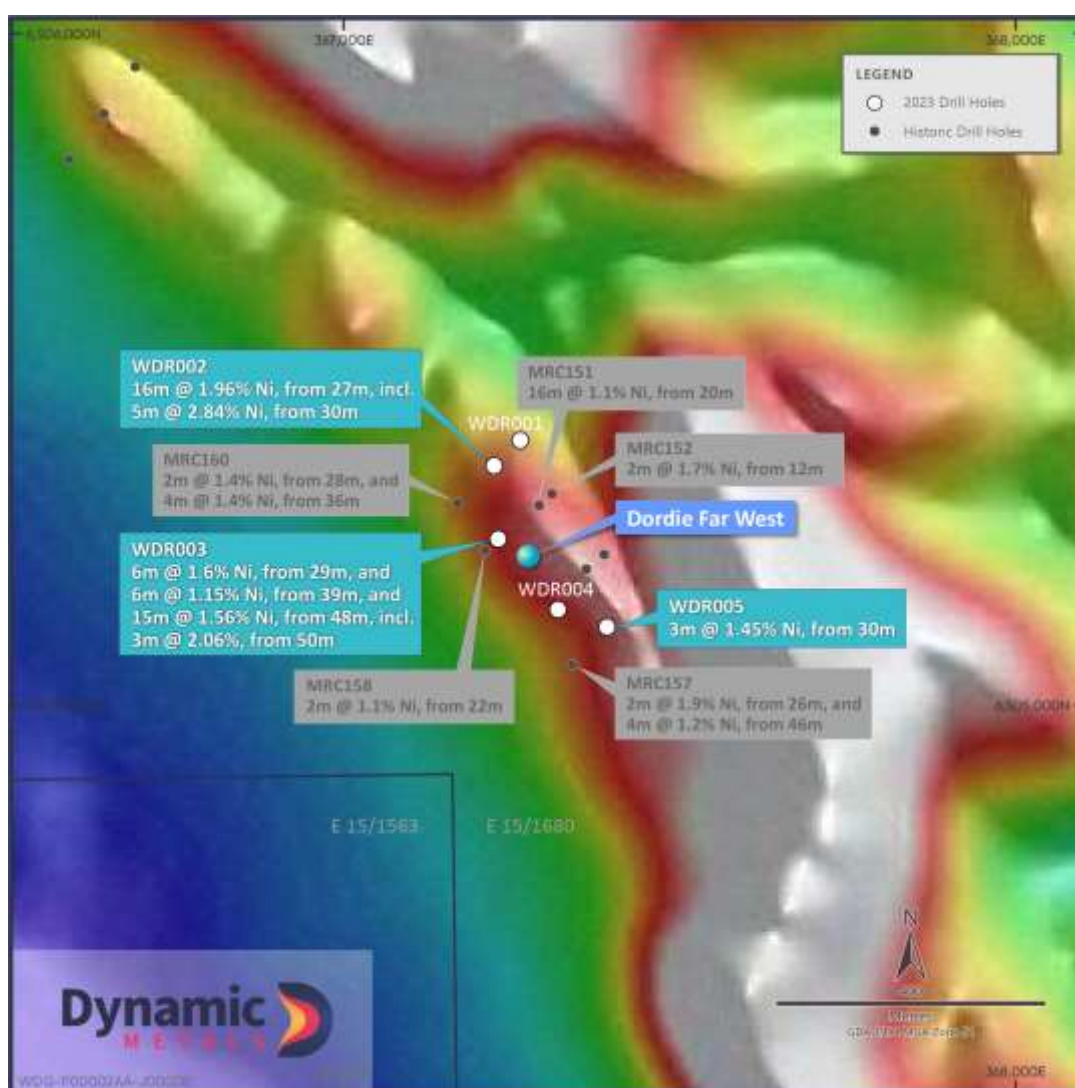

Figure 1: Drill hole positions and significant results at Dordie Far West (being updated)
DFW is located on the northwest margin of the Widgiemooltha dome on E15/1680, where anomalous nickel results were detected in RC drilling completed by Mincor Resources Limited (ASX:MCR) in the late 2000's (Figure 1)⁴. After review of the historic data, a drill program was designed to test for Kambalda komatiite type massive sulphide mineralisation interpreted to occur where the base of the komatiite stratigraphy is in contact with the underlying basalt, known as the 'basal contact'.
Five Reverse Circulation (RC) holes were drilled for a total of 736m at the prospect in February 2023, with drilling undertaken on four sections over a strike length of approximately 300m (Figure 1).